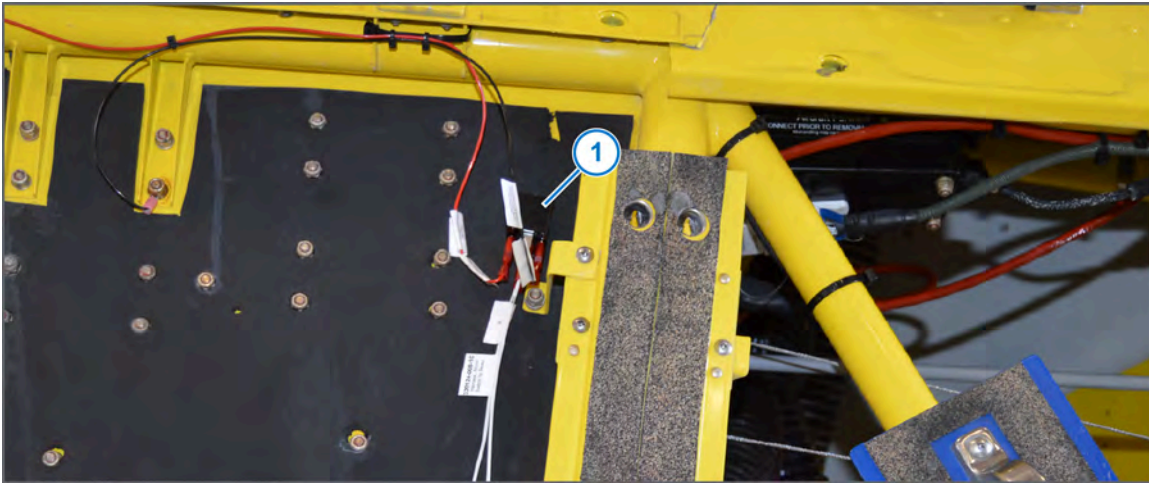

Figure 36: Relay Location
2. Mount the spray on/off relay (Figure 36, Item 1) on the left side of the cockpit.
See Figure 36